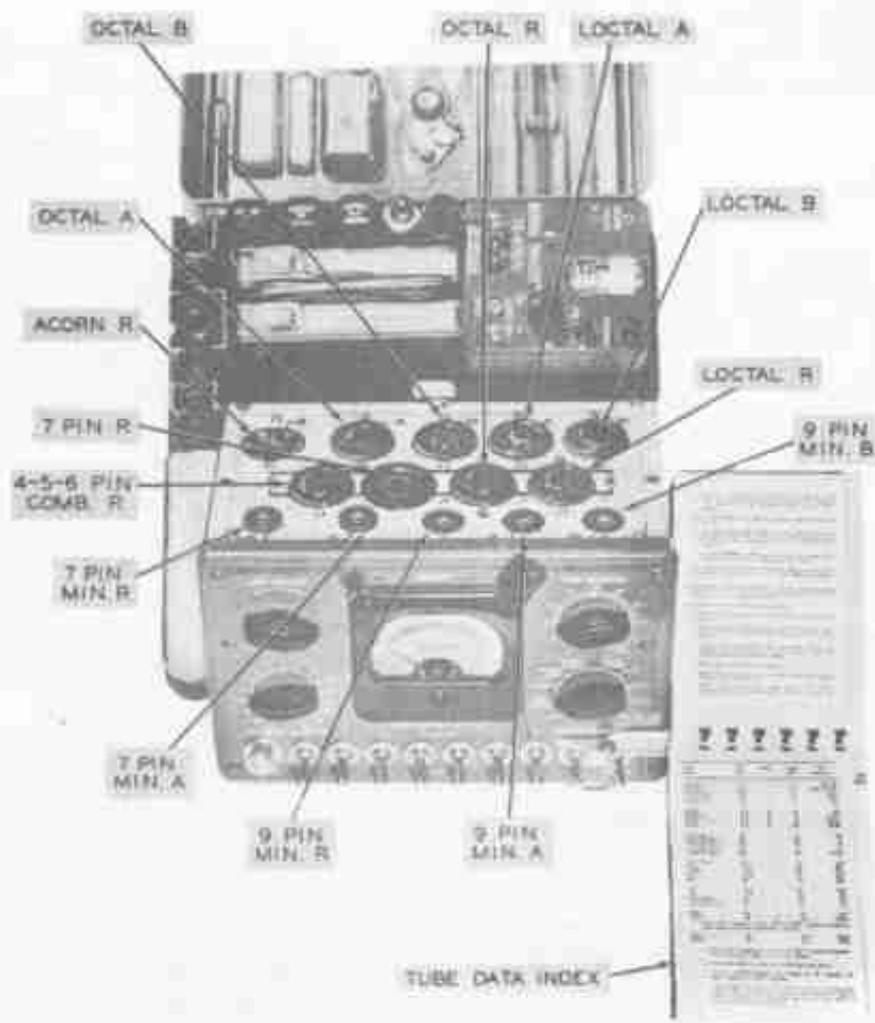

Figure 4-2. Tube Tester in Operating Position
b. PRELIMINARY OPERATION. - To set up the Tube Tester in operating position, unlatch the Test-Tool Set cover by opening the two snapcatches on the front or handle side. Open the cover and remove the Technician's Handbook. Then tilt the Tube Tester forward into position about 45 degrees from the bottom of the case, exposing the socket panel until the locking arm locks into place. (See figure 4-2.)